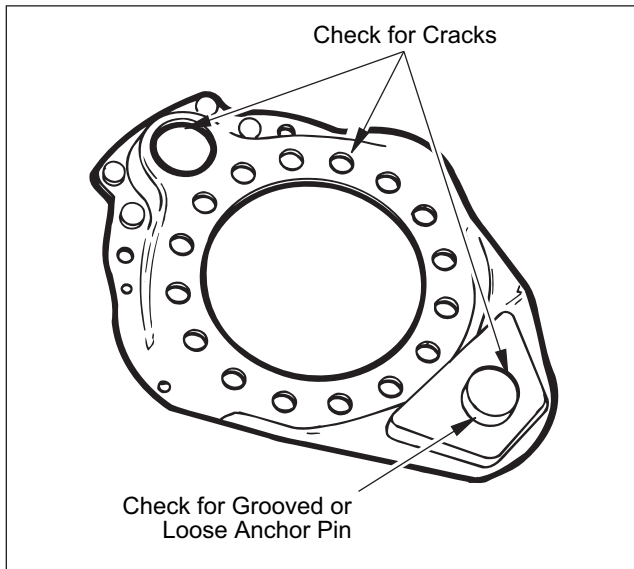

Figure 40. Spider Inspection
1. Check visually for cracks around mounting bolt holes, in cam area and around anchor pin. Refer to Figure 40. Replace spider if any are found.